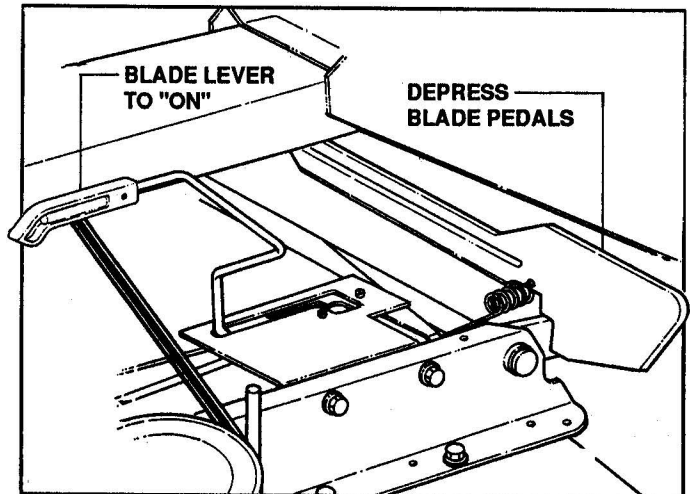

FIGURE 3.5
- Move blade lever up and over to the "ON" position and depress blade pedals. See Figure 3.5.